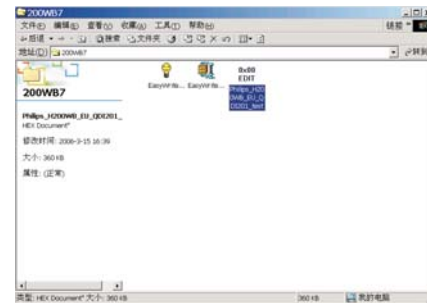

Fig. 5
Step 5 :Copy the Philips_H200WB_EU_QDI201_test to C:\200WB7 as shown in Fig. 5 .